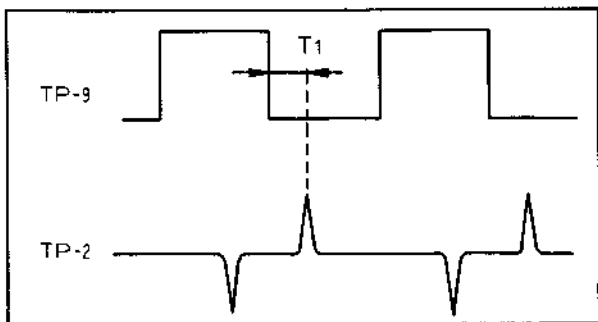

Fig. 5-16 6H monostable
3. Read and make a memo of the phase difference between the positive pulses at TP-9 and TP-2 (T_1 in Fig. 5-16).